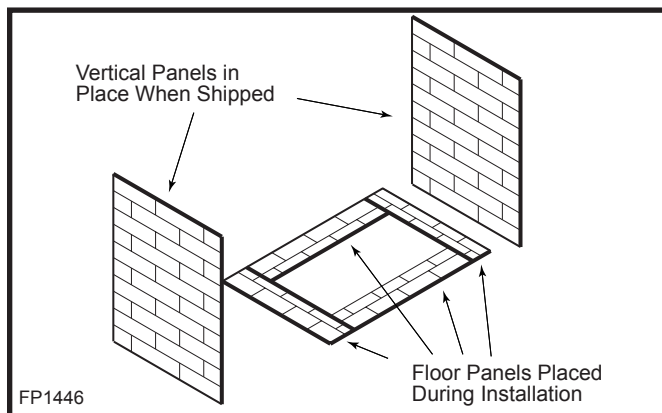

Fig. 39 Ceramic panel installation.
The vertical refractory panels are installed in the unit prior to shipment. For assembly procedures, refer to Figure 39.
**NOTE:** 360DVS2 is the only 360DV unit that is fitted with two (2) end vertical panels, as shown in Figure 39. 360DVSL and 360DVSR units are each fitted with one end vertical panel and two side vertical panel. The 360DVS3 has only one end vertical panel.